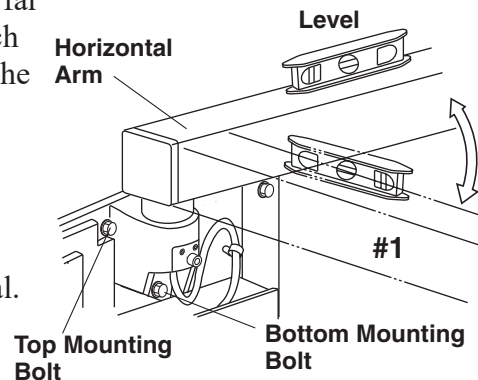

Fig.4-1 Horizontal Arm Adjustment
1. Incorrect leveling of the wall plate and wall bracket can cause arm drift. First, check leveling with horizontal arm in position #1. (Fig.4-1) If not correct, bracket must be adjusted by placing shims between the arm bracket and wall plate. (Refer to page 9.)
2. Swing the horizontal arm to the far right end and far left end and check that the positive degrees at each location are equal. If those are not equal, adjust the arm mounting bracket as follows. (Fig.4-1)